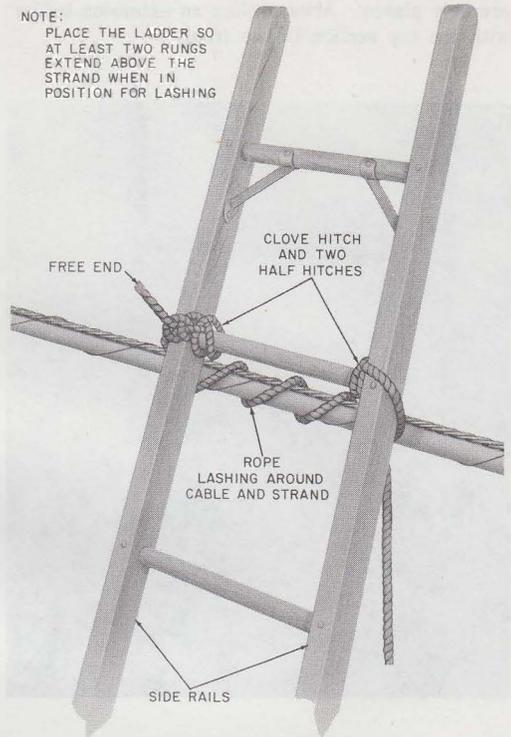

Fig. 5—Lashing Ladder to Strand
2.05 If the ladder is equipped with ladder hooks and the ladder is to be used on aerial cable, turn the hooks to the working position before the ladder is raised. Ladder hooks should be placed on the cable strand unless ladder is to be lashed (see Fig. 5) as covered in 3.07. Do not turn the hooks in before descending the ladder.